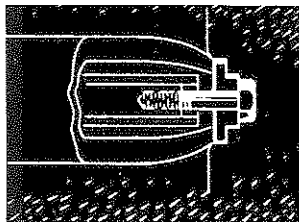

Figure 7
9. Before placing the next impeller on the shaft, pull the impellers already assembled down to the bottom seal by screwing tie down bolt (Figure 7) into end of shaft.